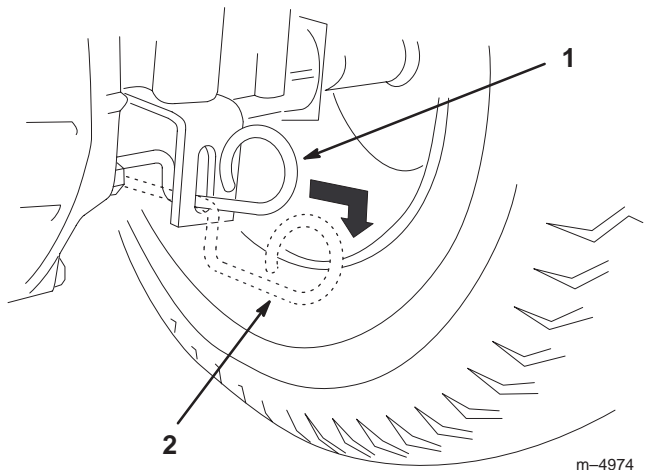

Figure 7
2. Place the drive control in the Push position (Fig. 7).
4. Place the drive control in the Operate position (Fig. 7). Drive the tractor forward then reverse approximately five feet. Repeat three times.